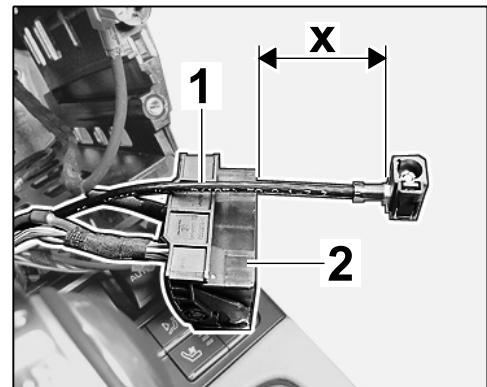

Figure 9
2.3.4 The GPS antenna line  $\Rightarrow$  Figure 9